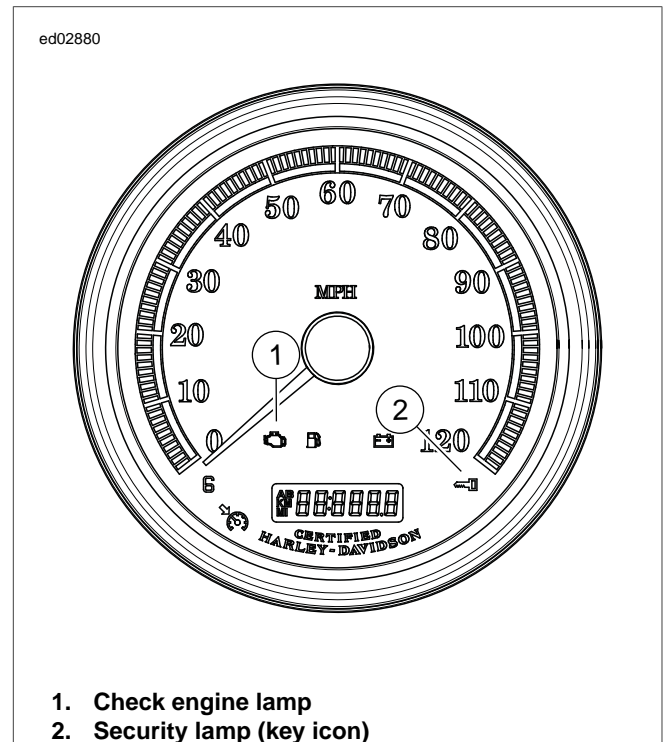

Figure 2-2. Check Engine and Security Lamp
See Figure 2-2. To diagnose Electronic Control Module (ECM) system problems, begin by observing the behavior of the check engine lamp (1).
See Figure 2-2. To diagnose Turn Signal Security Module (TSSM) or Hands-Free Security Module (HFSM) system problems, begin by observing the behavior of the security lamp (2).
- See Figure 2-2. When the Ignition Switch is turned ON, the security lamp will illuminate for approximately four seconds and then turn off.